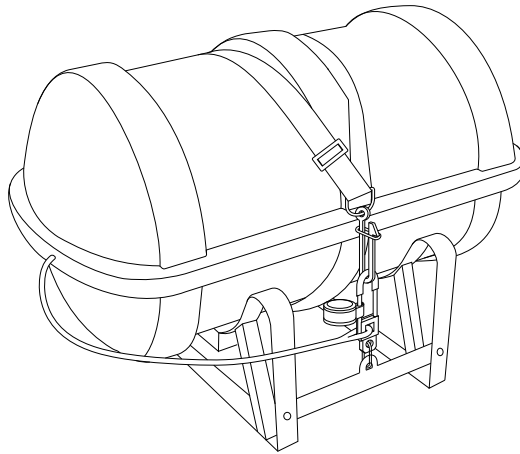

Fig 1 - Common Installation
- Any strapping down of the liferaft to the desired location must be easy to remove, with no locking system requiring a key. Where possible any securing arrangement should incorporate a hydrostatic release unit (HRU). The liferaft should be positioned clear of any overhangs, rigging or any other object that may hinder the rafts deployment, especially if the liferaft is fitted with a HRU. (see Fig 1 for a common liferaft installation)